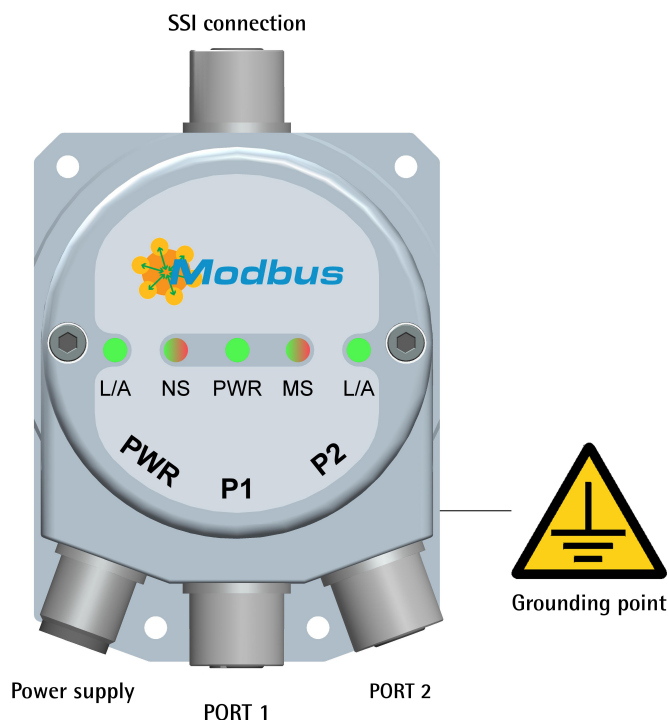

Figure 4 - Connectors and diagnostic LEDs
4.2 SSI connection (Figure 4)
4.3 Power supply and MODBUS TCP/IP interface connectors (Figure 4)
4.3.1 PWR Power supply connector (Figure 4)
4.3.2 P1 Port 1 and P2 Port 2 connectors (Figure 4)
To minimize noise connect properly the shield and/or the connector housing and/or the frame to ground. Connect properly the cable shield to ground on user's side. Lika's EC- pre-assembled cables are fitted with shield connection to the connector ring nut in order to allow grounding through the body of the device. Lika's E- connectors have a plastic gland, thus grounding is not possible. If metal connectors are used, connect the cable shield properly as recommended by the manufacturer. Anyway make sure that ground is not affected by noise. It is recommended to provide the ground connection as close as possible to the device. We suggest using the ground point provided in the cap (see Figure 4, use 1 TCEI M3 x 6 cylindrical head screw with two tooth lock washers).
4.9 Diagnostic LEDs (Figure 4)
Five LEDs located in the cap of the converter (see the Figure 4) are meant to show visually the operating or fault status of the device and the MODBUS interface. The meaning of each LED is explained in the following tables.